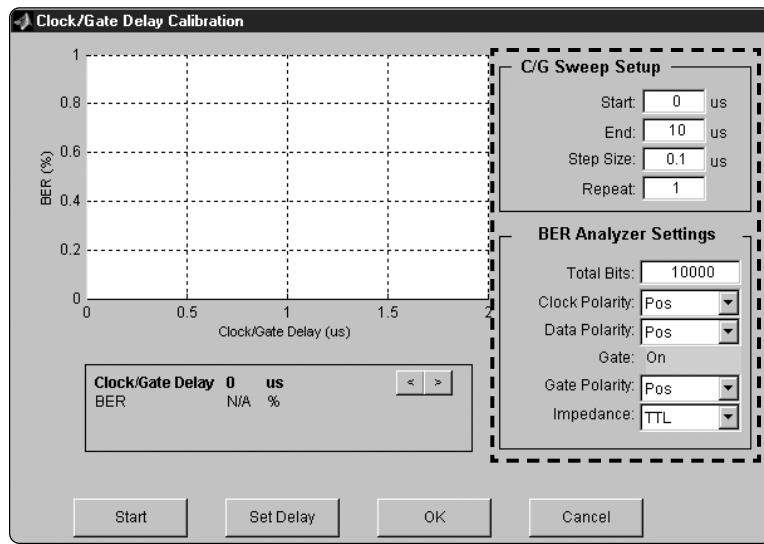

Figure 45. Clock/Gate Delay Calibration utility setup.
- Configure the automated Clock/Gate Delay Calibration utility, Figure 45. In this example, the Clock/Gate Sweep End field is set to 10 us. Default values are used for the remaining configuration fields.